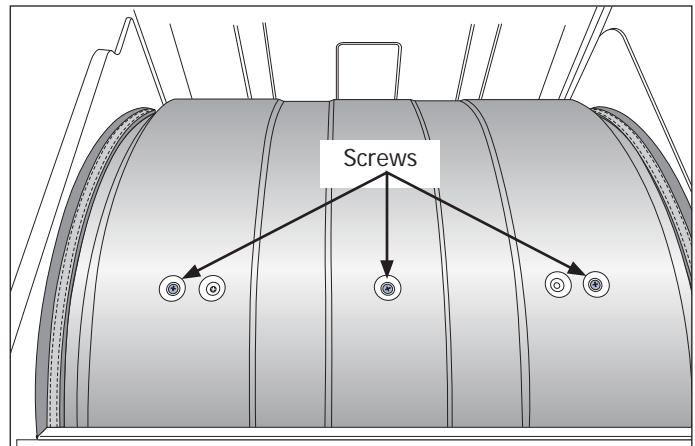

Figure 4-31.
2. Rotate the drum to access the screws on the exterior of the drum. While supporting the drum vane, use a #2 square bit screwdriver and extract the screws securing drum vanes to interior of the drum. (See Figure 4-31)